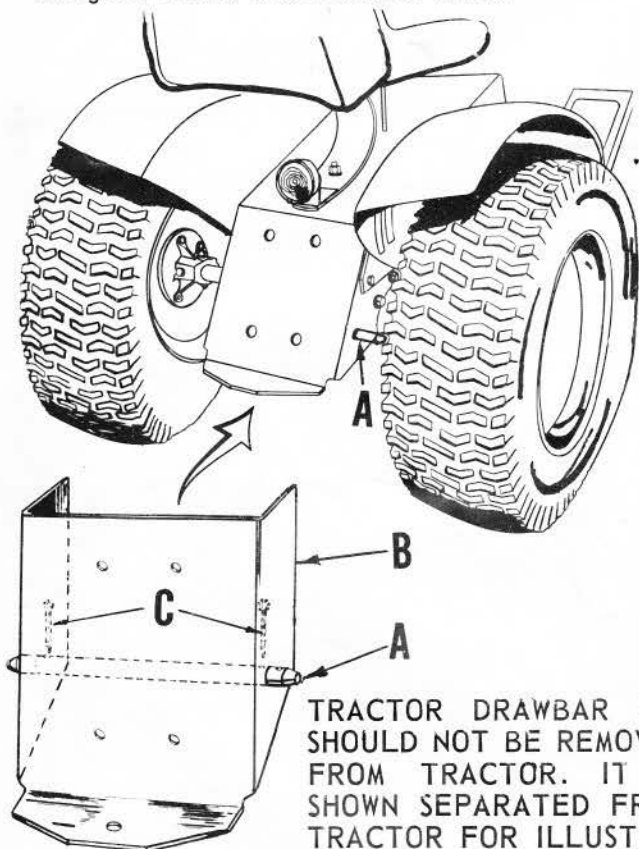

FIG. 1
2. Refer to Fig. 1. Slip lower link pin (A), through holes in sides of tractor drawbar (B), as shown. NOTE: Insert and spread 3/16 x 1 cotter pins (C), thru inner holes of link pin (A), and underside of drawbar as shown in Fig. 1. If link pin (A), cannot be inserted this way, jack up tractor and remove one rear wheel.